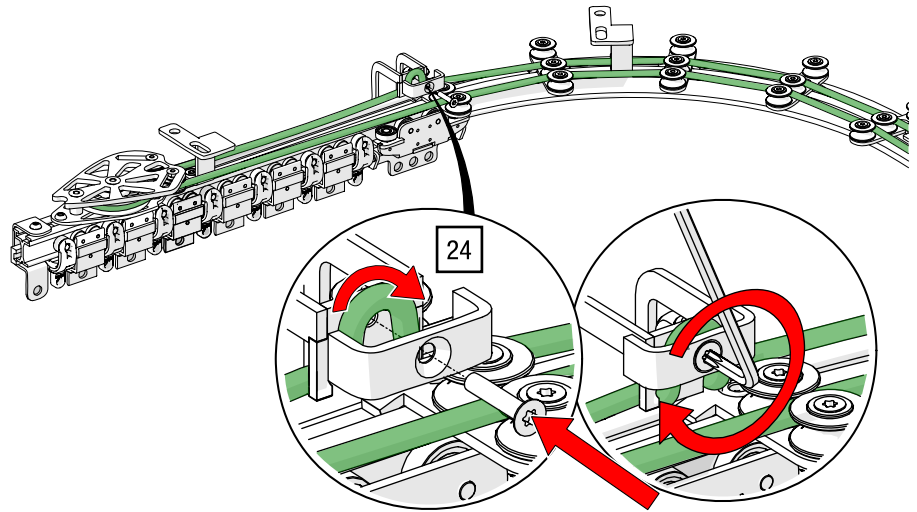

Fig. 103: Top cord operation – Clamp the cord to the second master runner
24. Clamp the cord in the second master runner by tightening the screw with a TORX®-key T30 (see Fig. 103).